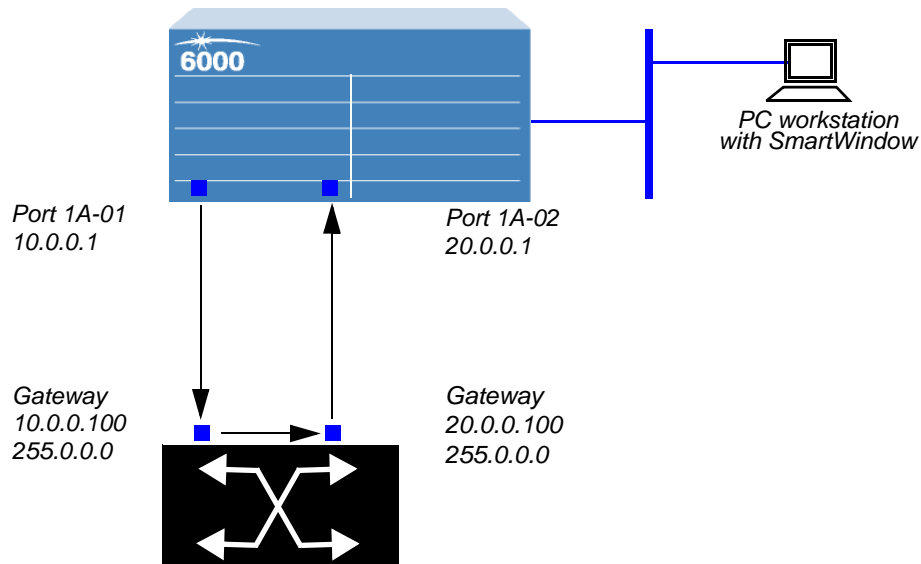

Figure 7-4. LAN-3321A Test Bed
- Refer to *Figure 7-4* for an illustration of this test bed.
Note: The addressing structure used for this test is defined in the topology shown in *Figure 7-4 on page 246*. These values are shown in the sample configuration screens. The number of streams and how they are configured is not set. The sections in this chapter provide explanations and options of the different configurations that can be used in this test environment.
The SmartBits chassis is connected to a Layer 3 switch or router (the DUT). Refer to Figure 7-4 on page 246 for the topology used in this test bed.